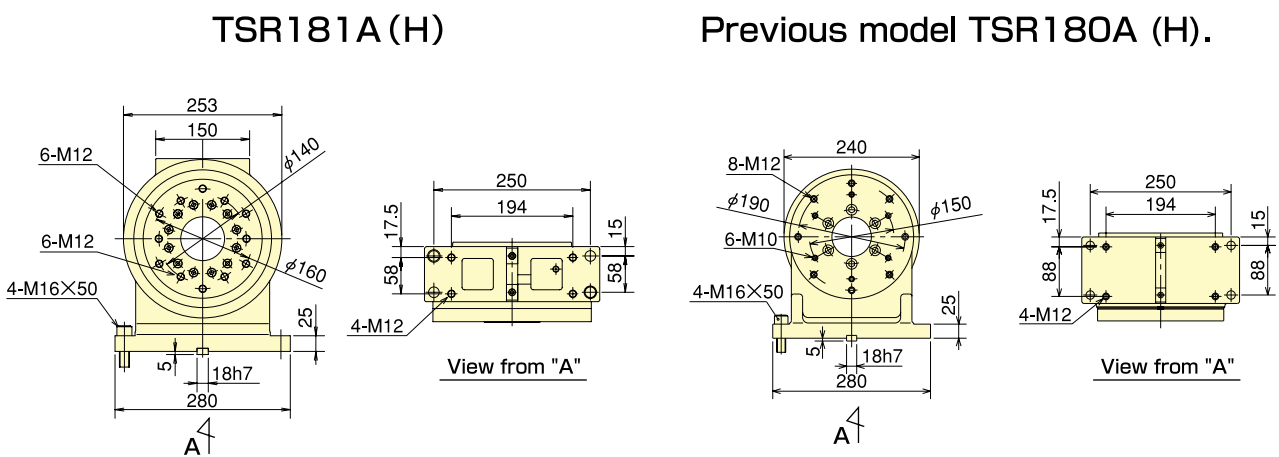

Fig. 2
Please note that the mounting dimensions for TSR181A (H) and previous model TSR180A (H) are different. (※Fig. 2)